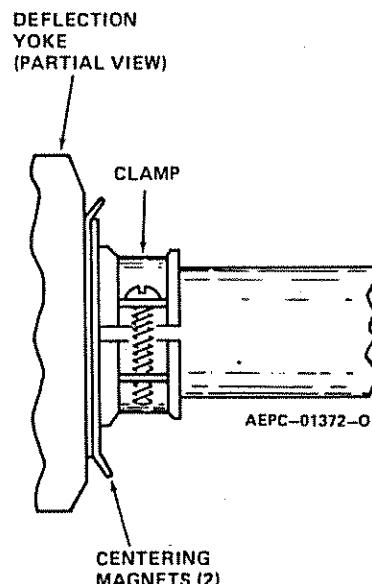
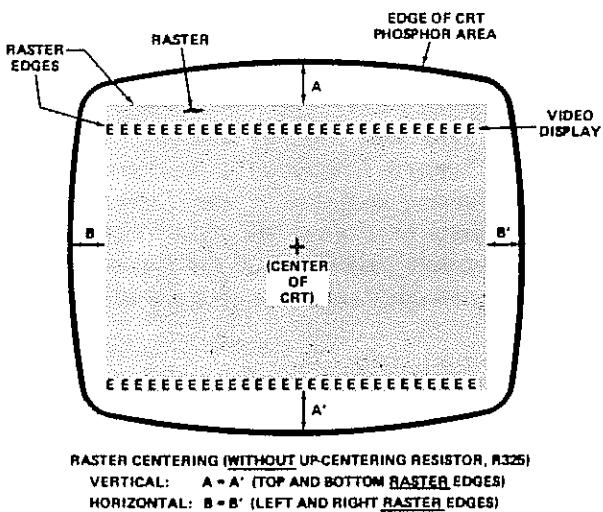
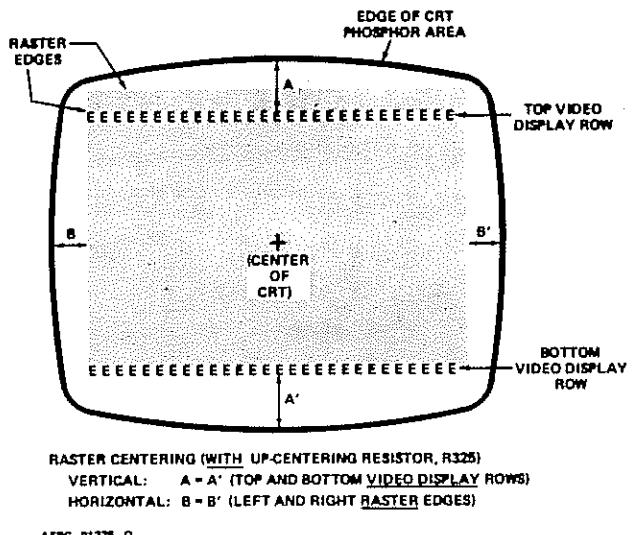

Figure 8. Partial View of CRT Neck/Deflection Yoke – Centering Magnets
Figure 9. Raster Centering Without Up-Centering Resistor, R325
Figure 10. Raster Centering With Up-Centering Resistor, R325
- Step 1. Turn up the Remote Brightness control (R213) until the four (4) edges of the raster are visible.
- Step 2. (Reference Figure 8.) Rotate the two (2) centering magnets (simultaneously) until the raster is centered (horizontally and vertically) within the active phosphor area of the CRT. (Reference Figure 9.)
- Step 2. (Reference Figure 8.) Rotate the two (2) centering magnets (simultaneously) until the left and right edges of the raster are centered horizontally, and the top and bottom edges of the video display are centered vertically within the active phosphor area of the CRT. (Reference Figure 10.)